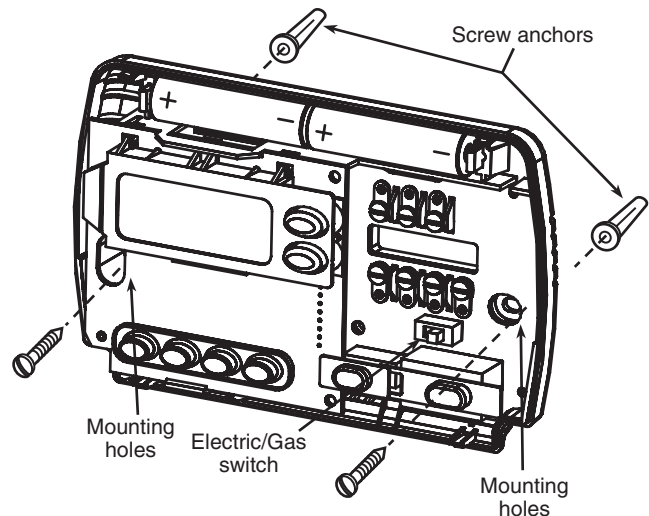

Figure 1. Thermostat Base
This thermostat is configured from the factory to operate a heat/cool, fossil fuel (gas, oil, etc.), forced air system. It is configured correctly for any system that **DOES NOT** require the thermostat to energize the fan on a call for heat. If your system is an electric heat or heat-pump system that **REQUIRES** the thermostat to turn on the fan on a call for heat, locate the **GAS/ELECTRIC switch** on the thermostat base (see fig. 1) and switch it to the **ELECTRIC** position. This will allow the thermostat to energize the fan immediately on a call for heat. If you are unsure if the heating/cooling system requires the thermostat to control the fan, contact a qualified heating and air conditioning service person.
5. Fasten base loosely to wall, as shown in fig. 1, using two mounting screws. Place a level against bottom of base, adjust until level, and then tighten screws. (Leveling is for appearance only and will not affect thermostat operation.) If you are using existing mounting holes, or if holes drilled are too large and do not allow you to tighten base snugly, use plastic screw anchors to secure subbase.
If **BATT** is displayed, the batteries are low and should be replaced with fresh "AA" Energizer® alkaline batteries. To replace batteries, install the batteries along the top of the base (see Fig. 1). The batteries must be installed with the positive (+) end to the left.